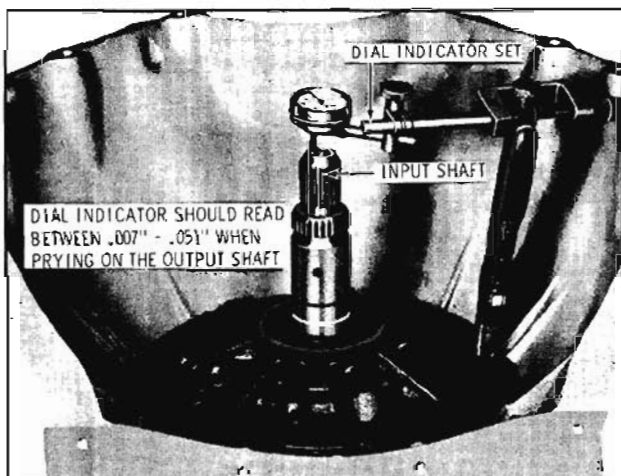

Fig. 6-438 Oil Pump End Ploy Check
1. Install selective fit washer to pump cover hub. (Fig. 6-438)